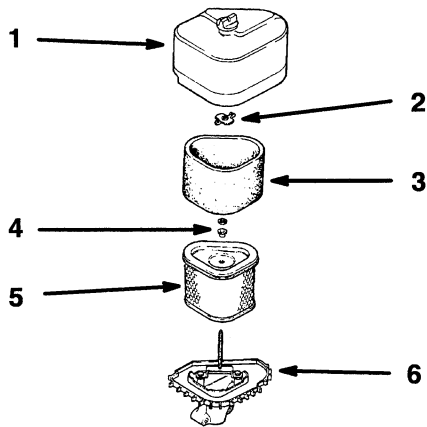

Figure 15
2. Clean around the air cleaner to prevent dirt from getting into the engine and causing damage. Unscrew the cover nut and remove the air cleaner cover (Fig. 15).
3. Remove the air cleaner assembly (Fig. 15).
4. Carefully slide the foam element off the paper element (Fig. 15).
- 1. Carefully slide the foam element onto the paper air cleaner element (Fig. 15).
- 2. Place the air cleaner assembly onto the air cleaner base (Fig. 15).
- 3. Install the air cleaner cover and secure with cover nuts (Fig. 15).